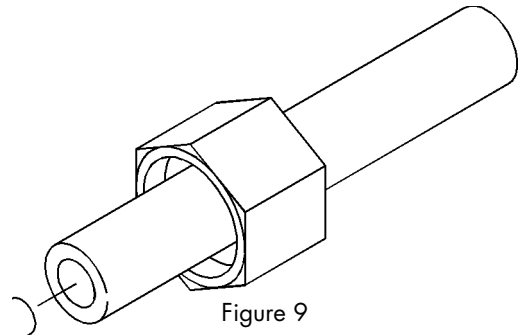

Figure 9
- Slip the white nut over one end of the tubing and press the plastic insert into the end of the tubing (Figure 9). Connect to the brine valve and tighten nut.
- Slip the white nut over one end of the tubing and press the plastic insert into the end of the tubing (Figure 9). Connect to the brine connection on the valve and tighten nut.